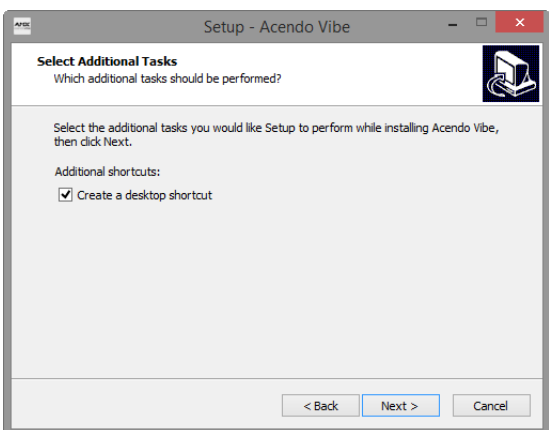

FIG. 23 Acendo Vibe Setup Wizard - Select Additional Tasks
- e. By default, the installation will create a desktop shortcut: de-select this option if desired and click **Next** to proceed (FIG. 23):